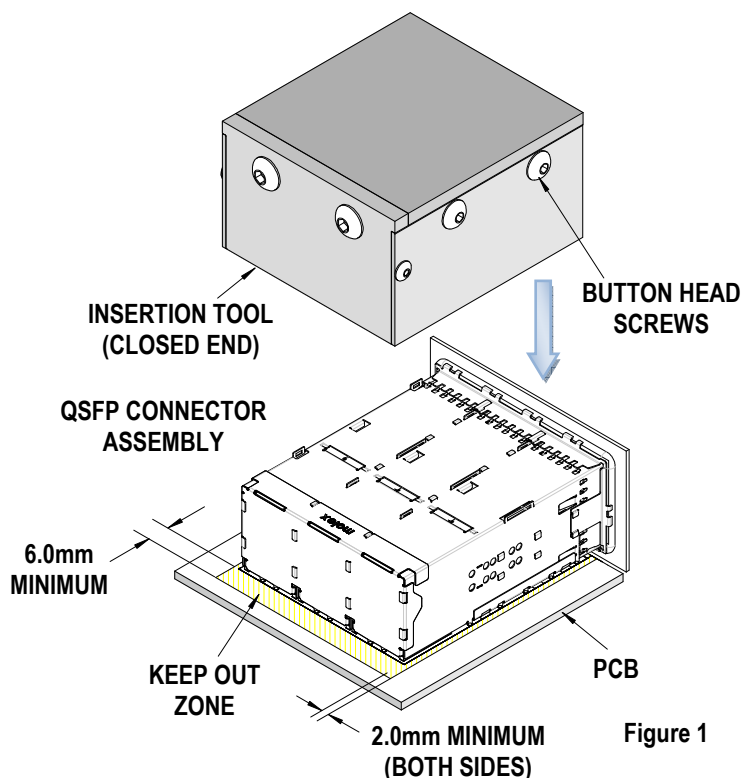

Figure 1
2. This tool requires a "Keep Out Zone" around the connector free of components. The rear of the connector should be 6.0mm (0.236"). The right and left sides should be 2.0mm (0.078"). See Figure 1.